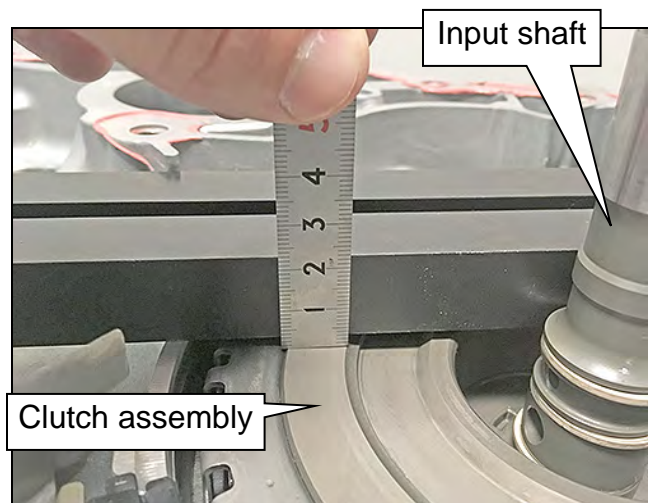

Figure 4GG
- The clutch assembly should sit 1-3 mm lower than the dummy cover seat (Figure 4G).